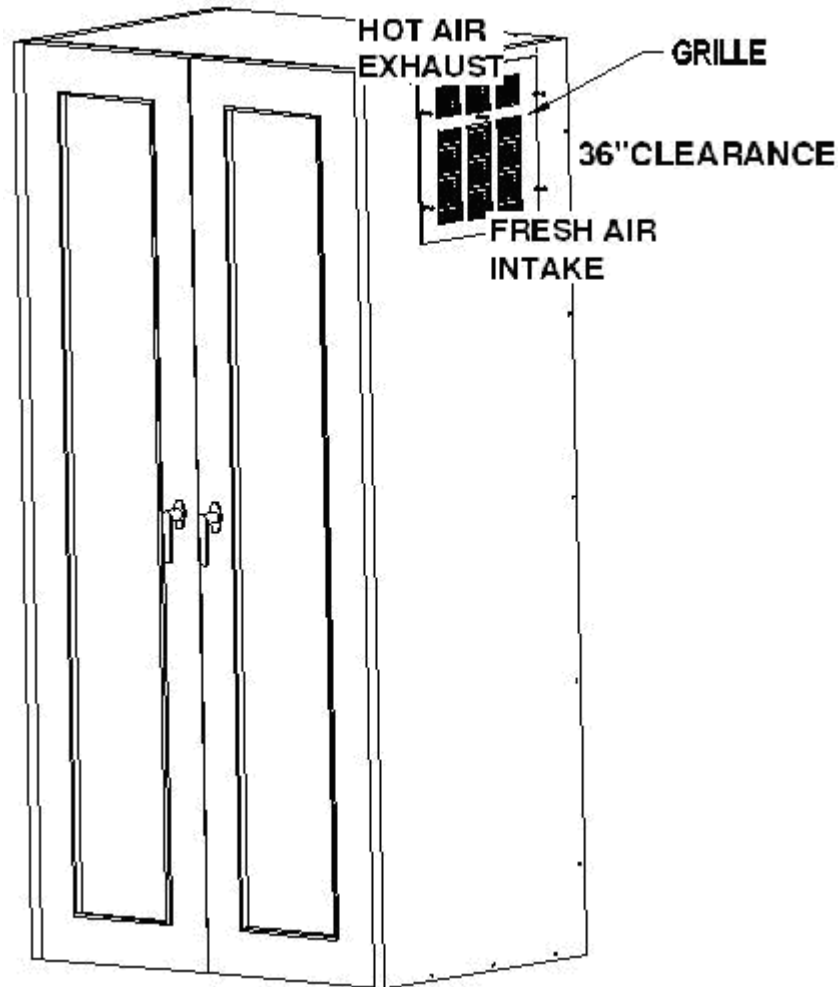

Fig. 2.7 CABINET GRILLE
- Attach the exhaust and fresh air grille from the rear side of the cellar (see Fig 2.7).